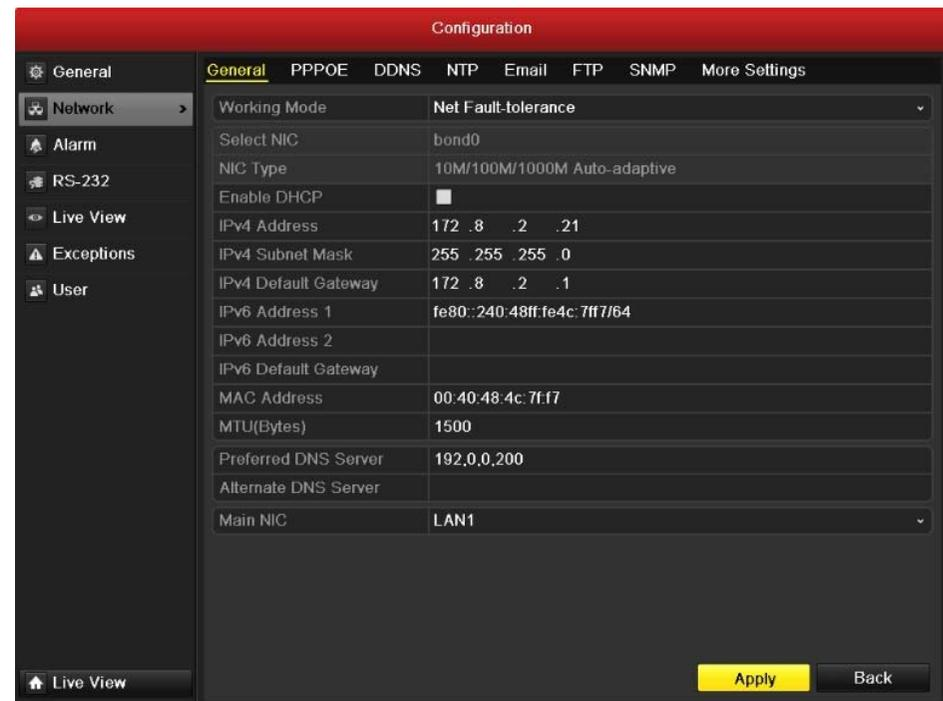

Figure 10.19 Network Settings Interface
2. Set the IPv4 Address, IPv4 Subnet Mask, IPv4 Gateway and the Preferred DNS Server in the Network Settings menu, as shown in Figure 10.19.